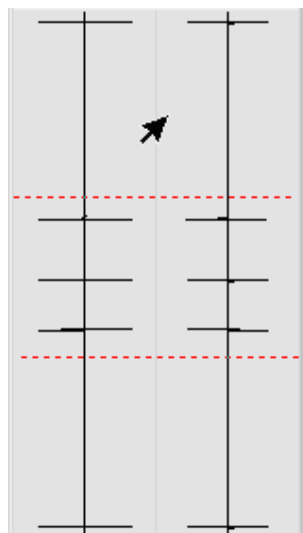

Figure 4-8 Chart display
7. Setting of end delay and start delay: these two parameters are used to avoid false alarm caused by ends of pipe, and to keep the hole signals 200mm away from the ends. The chart display signals are showed as Figure 4-8.